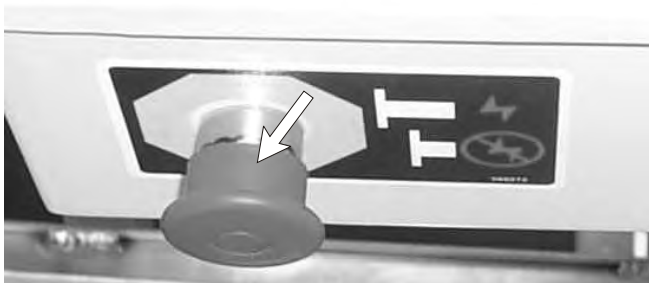

Figure 8.9
- To raise the platform, press and hold the Platform Lift/Lower switch ① up (see Figure 8.9).
- To lower the platform, press and hold the Platform Lift/Lower switch ① down (see Figure 8.9).